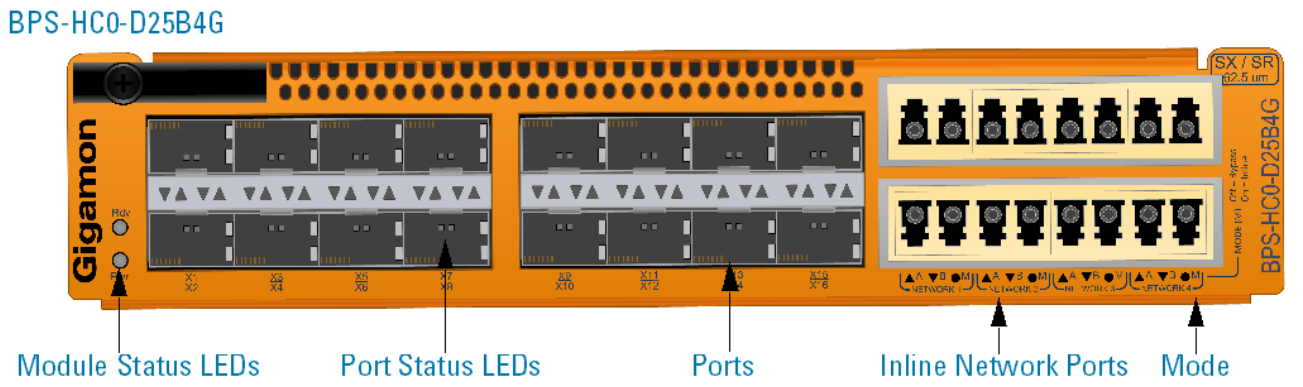

Figure 14 Bypass Combo Module BPS-HC0-D25B4G
- Bypass Combo Module with four SX/SR (62.5/125µm multimode) inline network port pairs and sixteen regular SFP+ port cages (BPS-HC0-D25B4G) (Figure 14 Bypass Combo Module BPS-HC0-D25B4G)